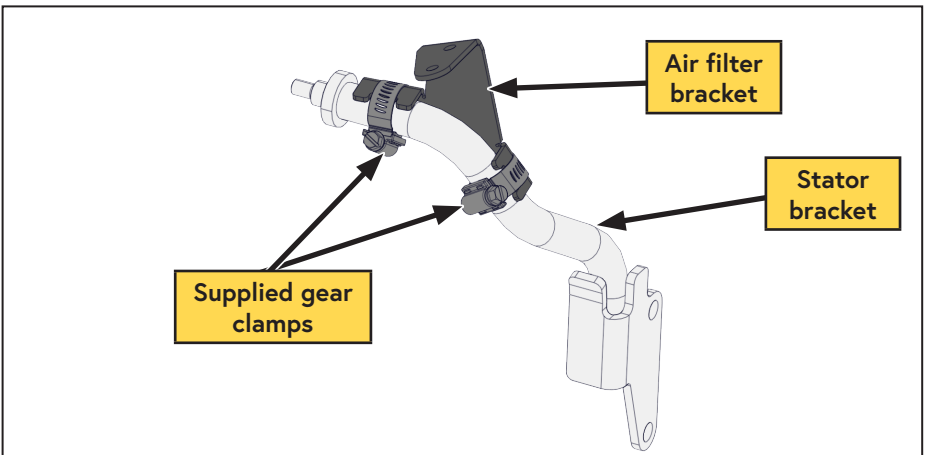

Figure 19 — Air filter bracket
- Install the air filter bracket onto the driver side stator bracket, and secure it with the 2 supplied gear clamps (Figure 19).